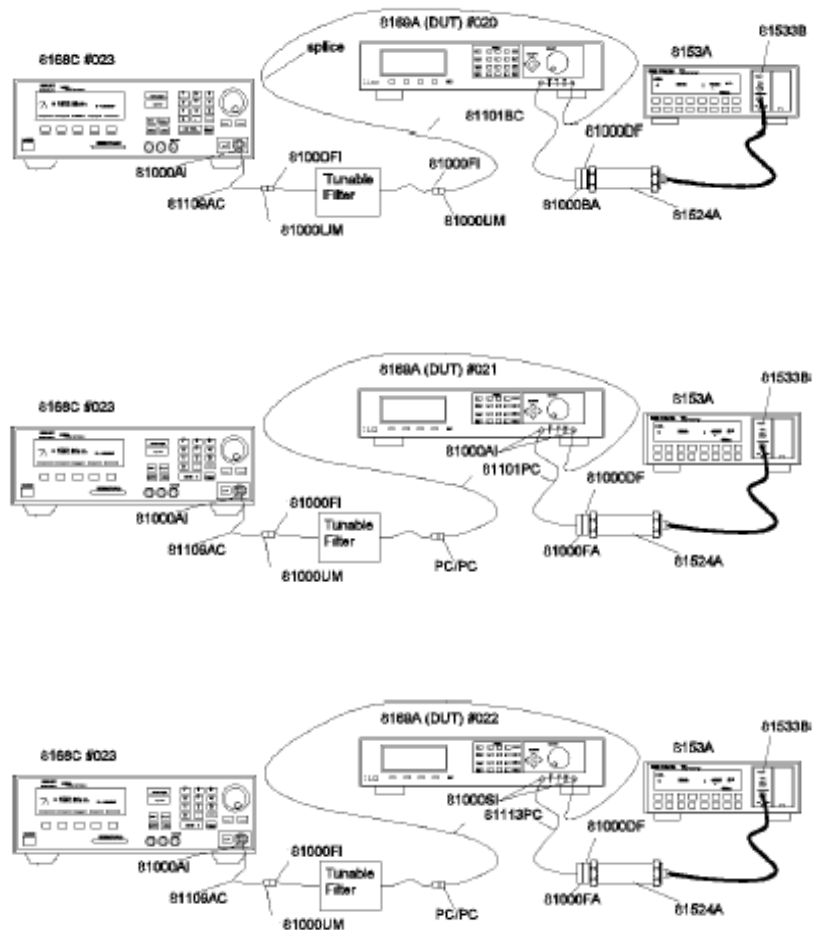

Figure 27 Test Setup for Measuring the Extinction Ratio
- 2 Setup the equipment as shown in Figure 27 .